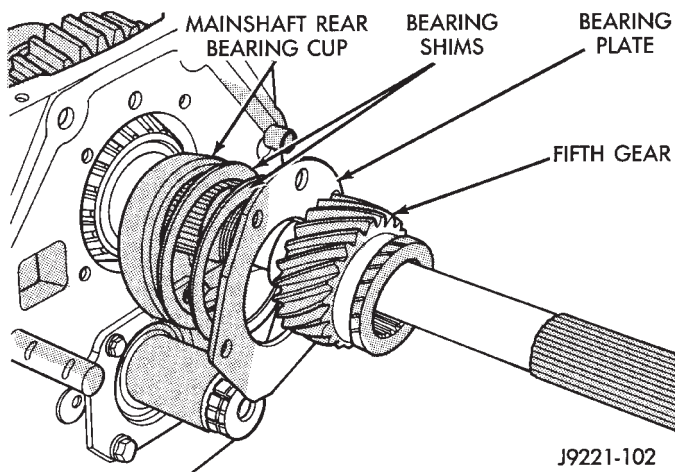

Fig. 35 Removing Mainshaft Fifth Gear Bearing Plate, Bearing Shims, And Rear Bearing Cup
(13) Remove bolts attaching mainshaft rear bearing plate to gear case and remove fifth gear plate end play shims and bearing cup (Fig. 35).